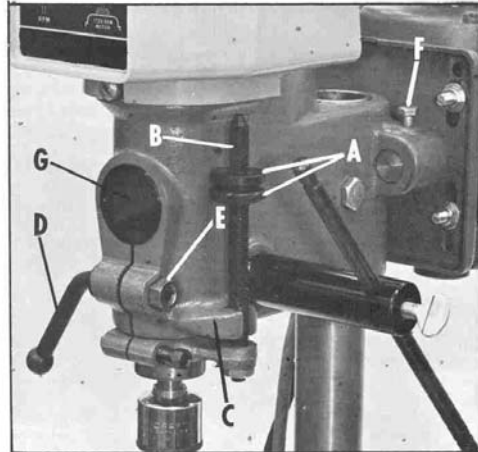

Fig. 18
To adjust belt tension, loosen the two hexagon head cap screws, one of which is shown at (F) Fig. 18, which hold the motor bracket studs in the head casting. Move the bracket in or out until the correct tension is obtained and tighten the two socket cap screws.
The spindle is raised or lowered by the hand lever. The quill can be locked at any desired point in its travel by tightening the quill clamping lever (D) Fig. 18. This is an especially desirable feature in operations such as routing.
The quill clamping lever (D) can be adjusted to lock in any convenient position when tight by shifting the hexagon nut (E) Fig. 18, in its socket. The quill clamping lever should hang downward when loose.
Any play which might develop between the head and quill after considerable use can be taken up by partially tightening the quill clamping lever (D) Fig. 18.
Where a number of holes are to be drilled to exactly the same depth, the stop nuts (A) Fig. 18, on the threaded stop rod (B) are used. After the first hole has been drilled to depth, the lower stop nut is set against the lug (C) on the head through which the stop rod passes. Return the quill to the up position and tighten the upper stop nut against the lower stop nut and all subsequent holes will be drilled to exactly the same depth.
To eliminate all end play in the spindle, clamp the table at a suitable height and lower the spindle against it with moderate pressure, while, at the same time, clamping the quill with the quill locking lever (D) Fig. 18. Remove cover plate (G) and move the set collar down against the top of the quill, and tighten the set screw used to secure the collar in position. This method will remove slack between the thrust collar, thrust bearing and quill.
1. Remove hole cover plate (G) Fig. 18.
2. Run the quill down until the set collar above the quill is accessible through the opening in the head where the hole cover plate (G) was removed.